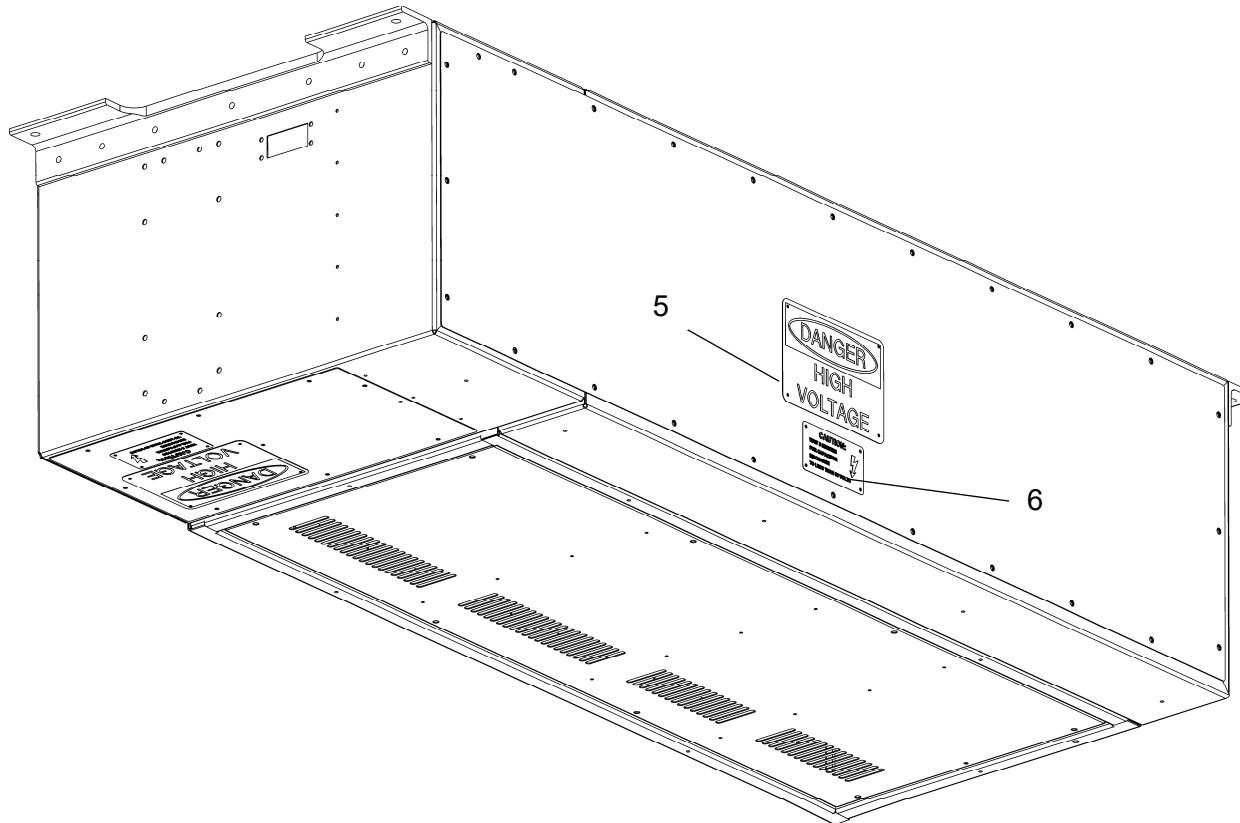

Figure 3-13: Warning Decals, Air Duct Service Cover
- Clean warning decals (5) and (6) on the air duct cover. See Figure 3-13.